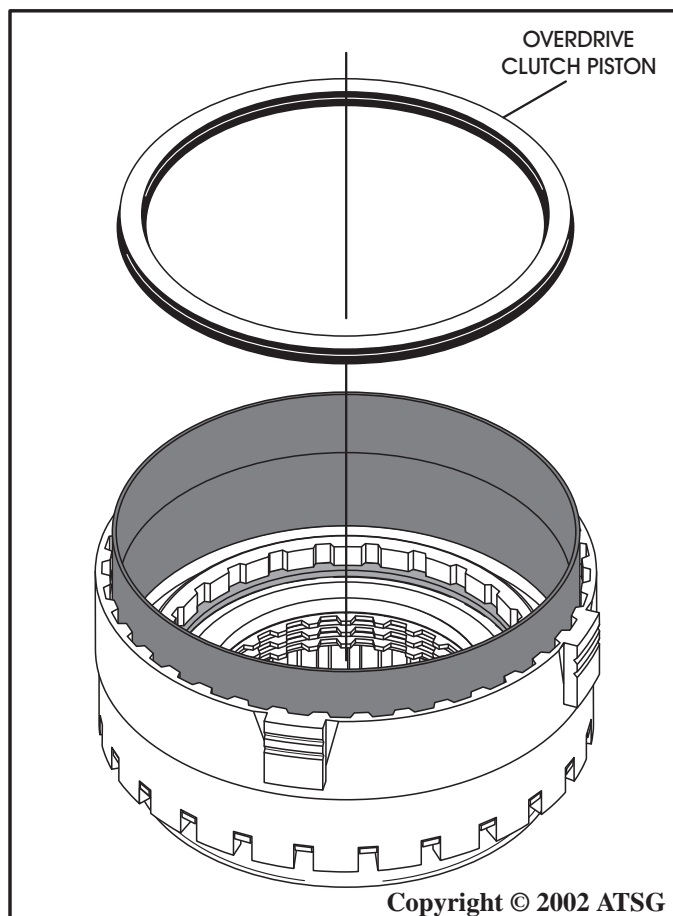

Figure 122
15. Lubricate molded overdrive clutch piston seals with small amount of Trans-Jel® and install the overdrive clutch piston into the housing, as shown in Figure 122.